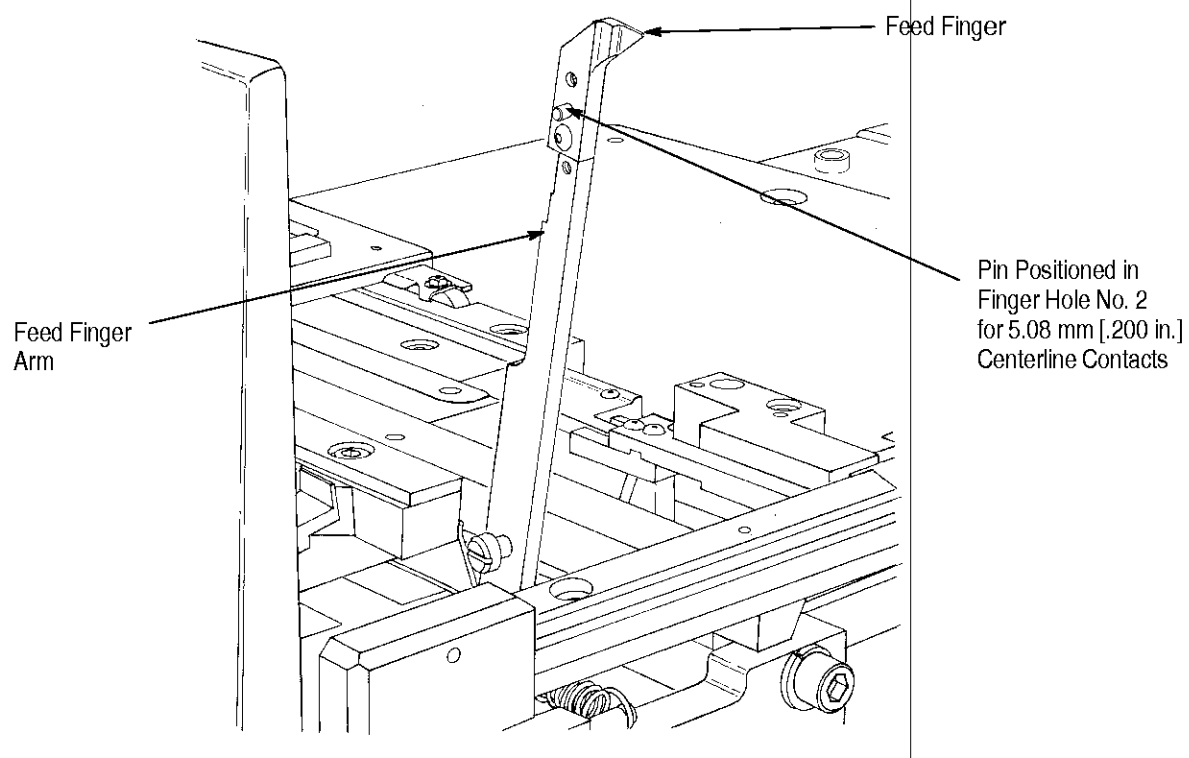
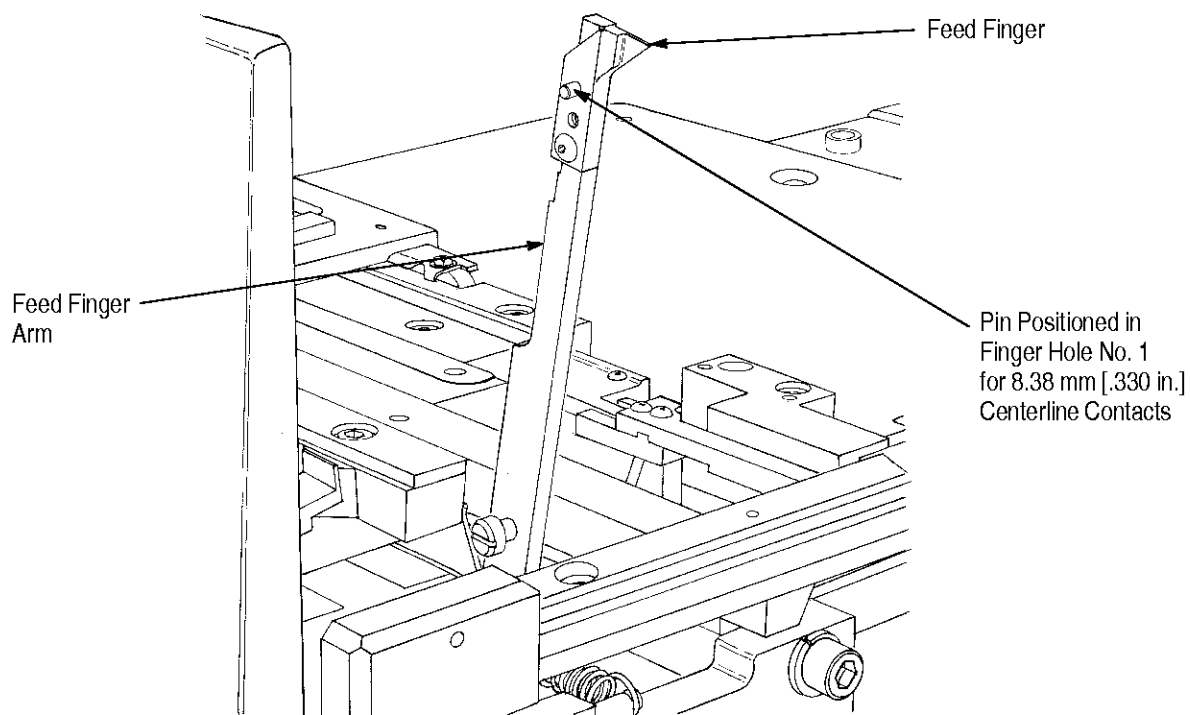

Figure 18
Figure 19
**4.13. Contact Strip Feed Finger Extension and Retraction Adjustments** (Figure 18)**A. Feed Finger Extension Adjustment**
- Loosen the locking screw in the pivot block, accessible through the hole in the frame next to the drive shaft (referenced but not visible in Figure 18).
*The contact feed finger has two possible mounting positions on the feed finger arm. To feed contacts on 5.08 mm [.200 in.] centerlines, secure feed finger to feed finger arm with pin in finger hole No. 2. See Figure 18. To feed contacts on 8.38 mm [.330 in.] centerlines, secure feed finger to feed finger arm with pin in finger hole No. 1. See Figure 19.*